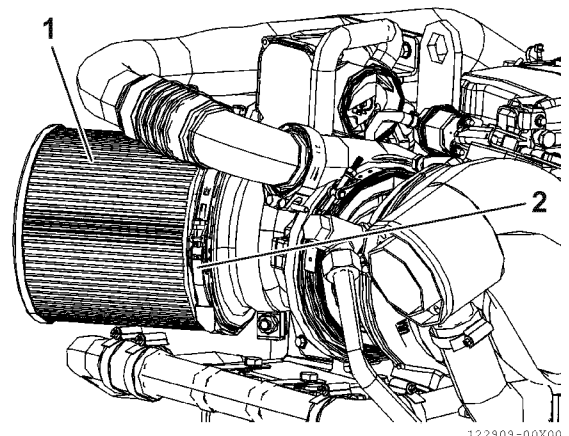

Figure 3
Open the collar (**Figure 3, (2)**) as indicated in the figure. Remove the air filter body (**Figure 3, (1)**).
Correctly position the filter (**Figure 3, (1)**) in its seat and secure it with the collar (**Figure 3, (2)**).